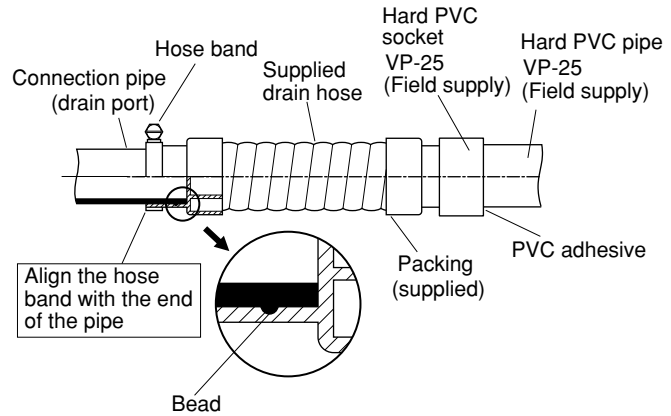

Fig. 3-37
- (1) Prepare a standard hard PVC pipe (O.D. 32 mm) for the drain and use the supplied drain hose and hose band to prevent water leaks. The PVC pipe must be purchased separately. The unit's transparent drain port allows you to check drainage. (Fig. 3-37)
- **Insert the drain pipe until it contacts the socket, as shown in Fig. 3-37, then secure it tightly with the hose band.**
- **Align the hose bands with the end of the hose. Tighten the hose band firmly. Please make sure that the bead is not covered by the hose band. (Fig. 3-37)**
Tighten the hose clamps so their locking nuts face upward. (Fig. 3-37)